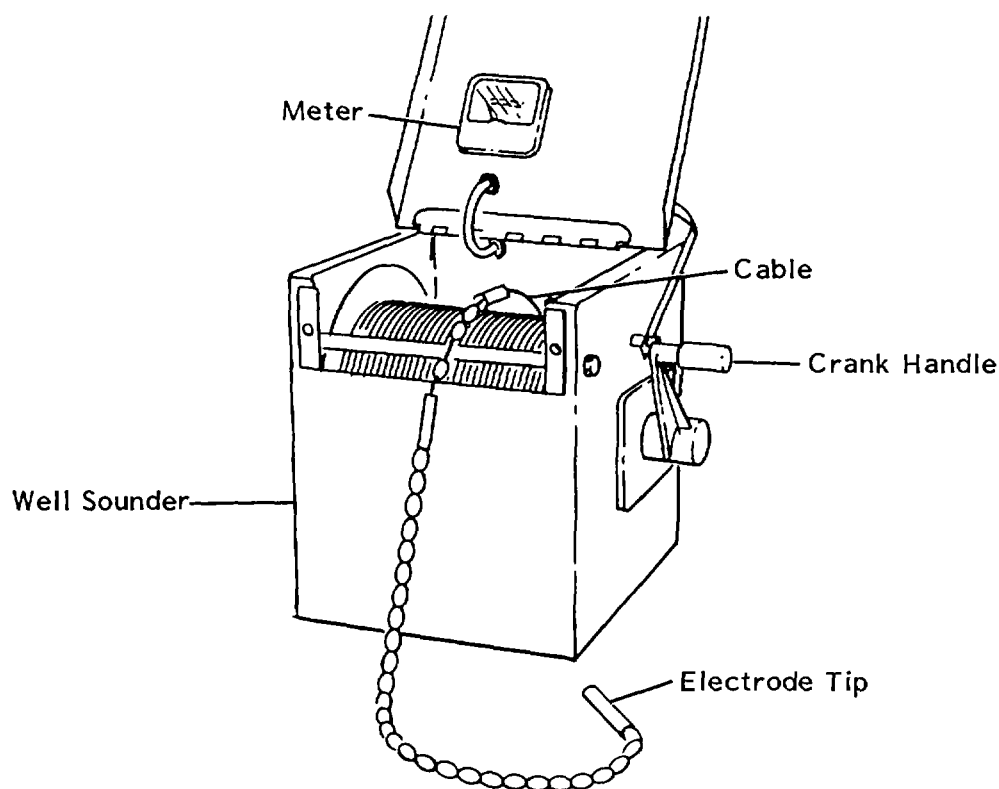

Figure 2-47. Well Sounder
- (5) Repeat steps 2, 3, and 4 until all the sand and dirt is cleared from the hole.
- b. Sounding Well . The well sounder (See figure 2-47) is an instrument designed to test water wells to determine the static or standing water level. The sounder is also used after pump installation to test for draw-down with pump running.
- (1) Open the lid of the well sounder and reel off the cable, lowering the electrode tip into the well slowly.
- (2) Depth is indicated in one-foot increments on the cable. Observe the meter as you lower the cable in the hole. When the electrode tip reaches water level, the meter will register a steady positive reading. Stop lowering the cable and note the depth marker on the cable.
- (3) Operate the crank handle to roll up sounder cable, wiping water off the cable before it wraps onto the reel. When cable has been rolled up, close lid to shut off the well sounder.